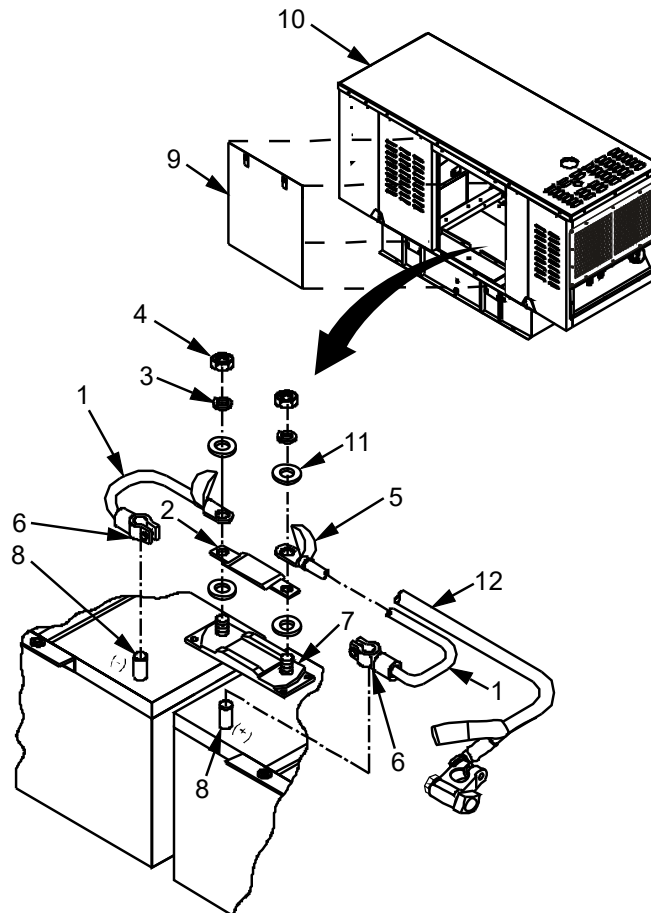

Figure 1. Battery Fuse - Replace.
6. Loosen but do not remove two nuts that secure cable clamps (Figure 1, Item 6) to battery post (Figure 1, Item 8).
7. Remove two battery cables (Figure 1, Item 1) with fuse (Figure 1, Item 2) and fuse holder (Figure 1, Item 7) attached.
8. Slide insulator covers (Figure 1, Item 5) back to expose nuts (Figure 1 Item 4).
9. Remove and retain two nuts (Figure 1, Item 4), lock washers (Figure 1, Item 3), and flat washer (Figure 1, Item 11) that secure the fuse (Figure 1, Item 2) to the fuse holder (Figure 1, Item 7). Discard lock washers (Figure 1, Item 3).
10. Remove and discard battery fuse (Figure 1, Item 2).
1. Install new battery fuse (Figure 1, Item 2) onto fuse holder (Figure 1, Item 7).
2. Secure by installing battery cables (Figure 1, Item 1), flat washers (Figure 1, Item 11), new lock washers (Figure 1 Item 3) and nuts (Figure 1, Item 4). Tighten nuts.
3. Secure two battery cables with fuse to battery negative cable (Figure 1, Item 12), with two cable ties.
4. Install battery cables (Figure 1, Item 1) to battery terminals (Figure 1, Item 8), and tighten nuts.
5. Install and secure access panel (Figure 1, Item 9).